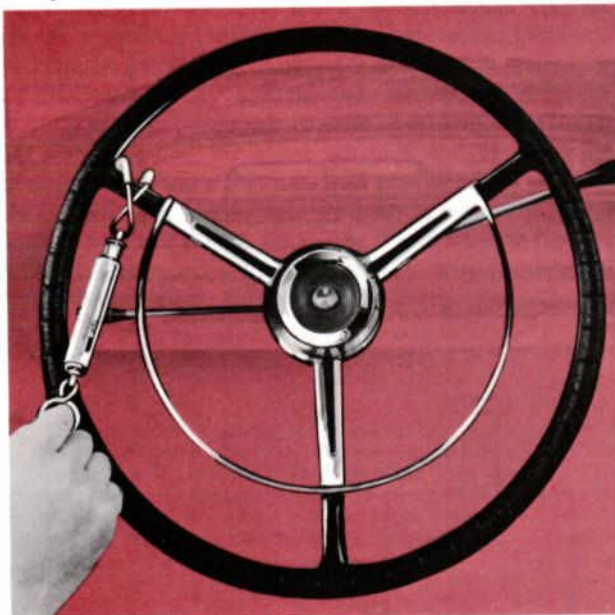

Figure 5—Turning Effort Test
2. Attach a pull scale to the steering wheel (Fig. 5). Check the effort required to turn the wheel at least one complete revolution in both directions. The specified torque should be approximately 4½ pounds and equal in both directions. If the turning effort is excessive, a worm bearing preload and sector mesh load test should be made.